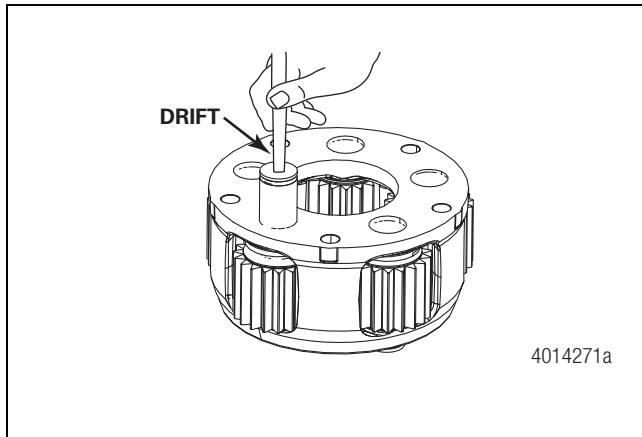

Figure 12.3
4. Use a drift to press the new pinion shafts into the planetary carrier housing. The pinion shafts should be seated with enough room to fit the snap rings. Figure 12.3.